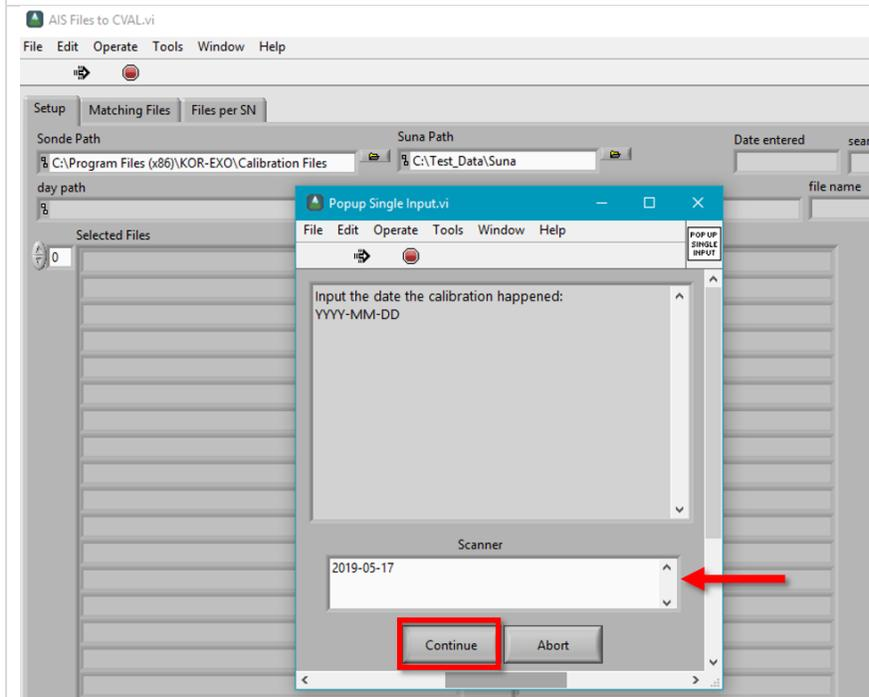

Figure 167. Input Date of Multisonde Calibration
**STEP 6** | Input the date of the calibration in the following order: YYYY-MM-DD (Figure 167).